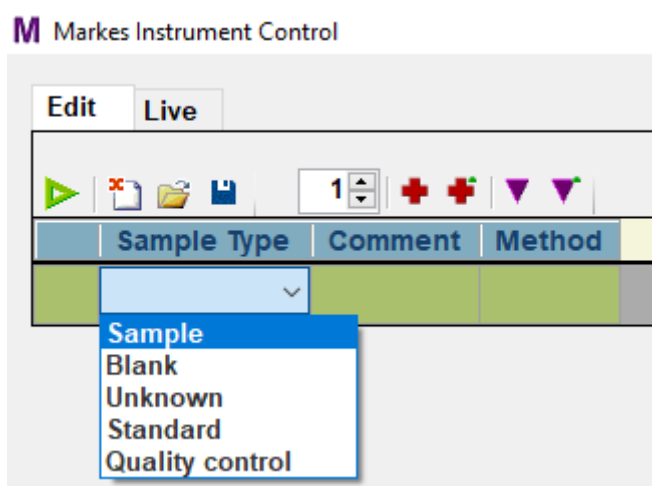

Figure 17. Sample Type selection menu.
4.5.3 Select “Sample” from the “Sample Type” scroll up menu (Figure 17).